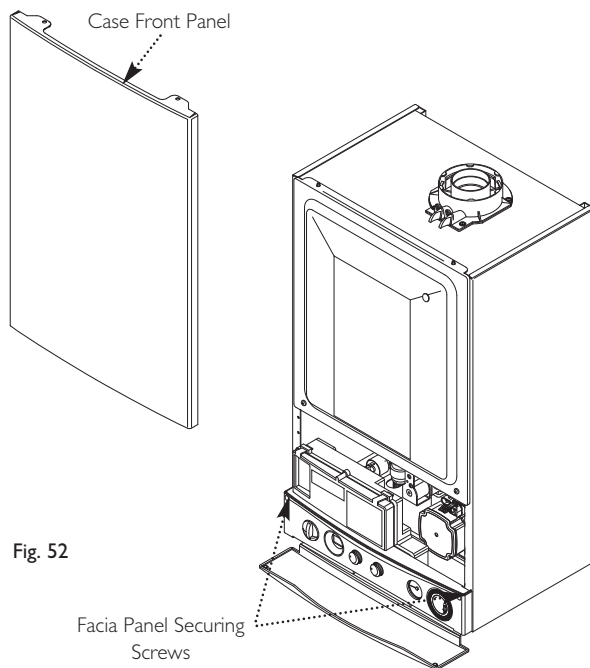

Fig. 52
3. Slacken the screws securing the fascia panel. Lift the outercase panel so that its securing tabs are clear of the fascia. Remove the panel, allowing the fascia to hinge down (Fig. 52).